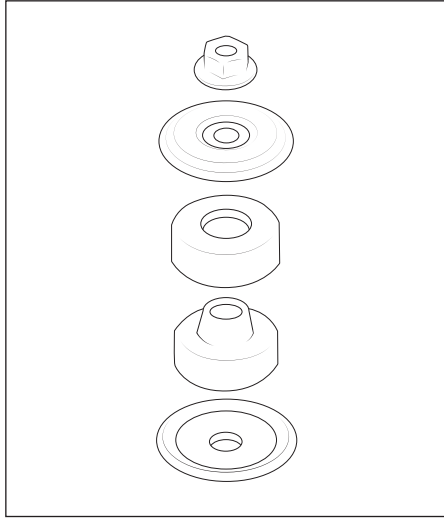

Figure 1
1. Install upper shock bushing to frame. Starting on either side, install upper mount using provided hardware. Shocks are not sided, so either front shock can be mounted on either side of vehicle. Larger hole cupped washer and conical bushing go on shock shaft in orientation shown, then shaft gets placed through the frame bracket, then the other bushing and cupped washer go in place before installing the nut (fig. 1).